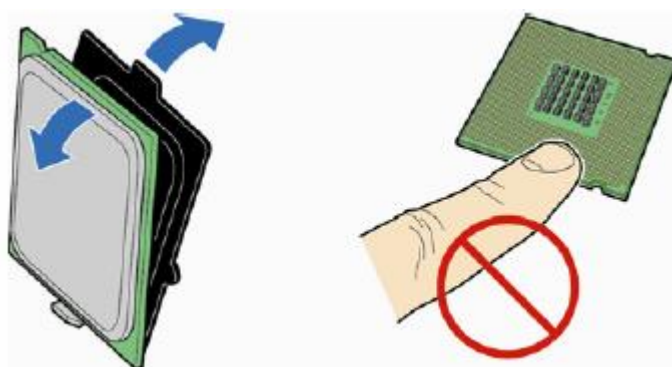

Figure 20: Remove the processor from the protective cover
2. Rotate the socket lever to lift the load plate away from the socket (Figure 20, A). Make sure that the load plate is in the fully open position (Figure 20, B) while being careful not to damage adjacent components. Do not touch the socket contacts.